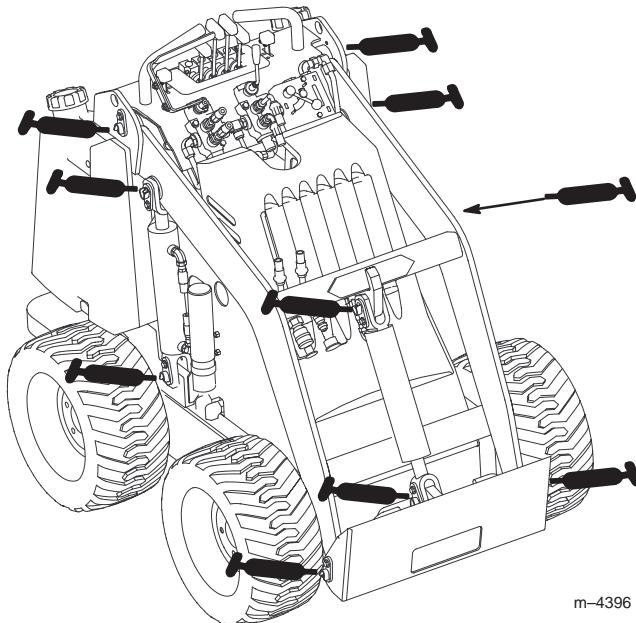

Figure 17
3. Connect a grease gun to each fitting (Fig 17 and 18).